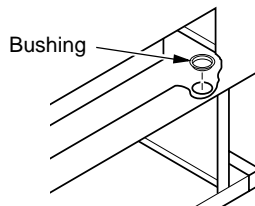

Figure 15 - Installing Bushing
- Install one plastic bushing provided in blower kit into the 1 1/2" hole in the left rear of firebox floor. Access hole through the rectangular opening in the rear panel (see Figure 15).